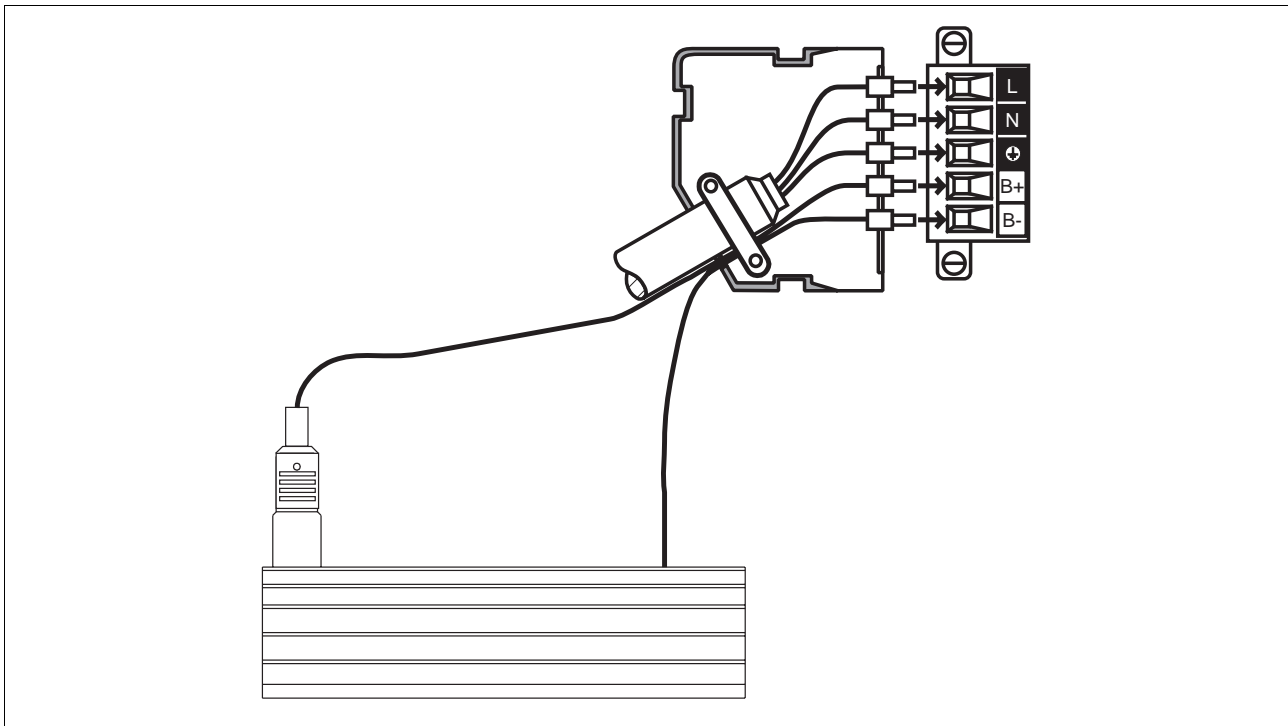

Fig. 6-2 Load resistor connection
1. Loosen screws and remove mains connector (fig. 6-2).
7. Fasten the connector on the front panel (item 07).